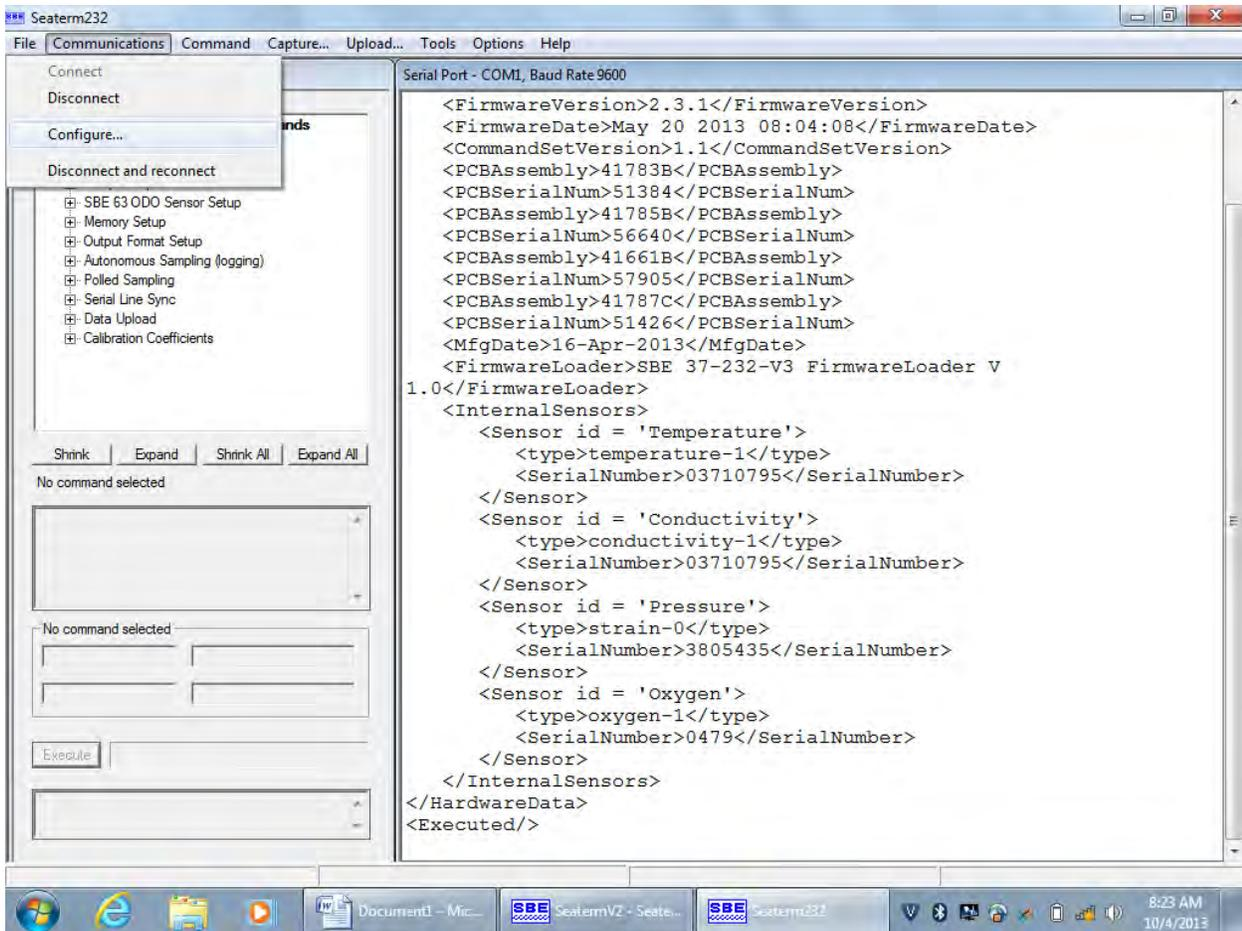

Figure 26. Image of SeaTerm V2 window with menu selection for configuration of communications settings.
- a. Go to menu **Communications** and then **Configure...** (Figure 26).